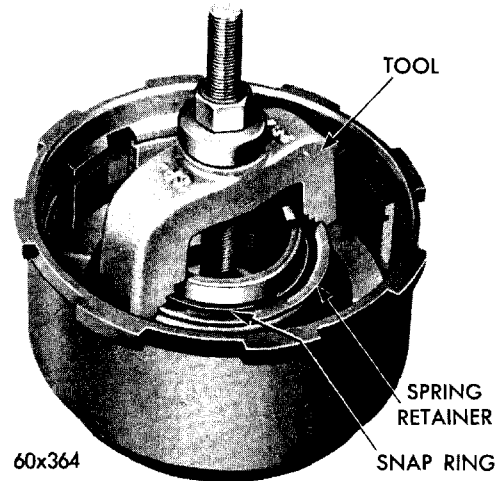

Fig. 46—Removing or Installing Front Clutch Spring Retainer Snap Ring
(1) Using a screw driver, remove large snap ring that secures the pressure plate in clutch piston retainer. Lift the pressure plate and clutch plates out of the retainer.
(2) Install compressor, Tool C-3575 over piston spring retainer as shown in Figure 46. Compress spring
- (2) Lubricate and install outer seal ring on clutch piston, with lip of seal toward bottom of clutch retainer. Place piston assembly in retainer and, with a twisting motion, seat piston in bottom of retainer.
- (3) Place spring on piston hub and position spring retainer and snap ring on spring. Compress spring with Tool C-3575 (Fig. 46), and seat snap ring in the hub groove. Remove compressor tool.
- (4) Lubricate all clutch plates, install one steel plate followed by a lined plate until all plates are installed. Install the pressure plate and snap ring. Make sure snap ring is properly seated.